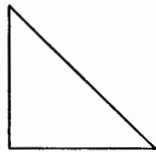

Fig. 32
26. A *Right-Angled Triangle* is one in which one of its angles is a right angle. Fig. 32. No triangle can have more than one right angle.